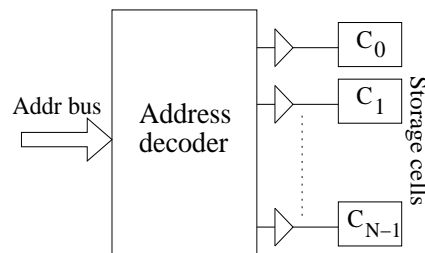

Figure 14: 1-dimensional memory module
**1-D memory** Each cell is connected to one address driver. If storage capacity is N bits, access circuitry needs one N-output decoder and N address drivers (Figure 14).